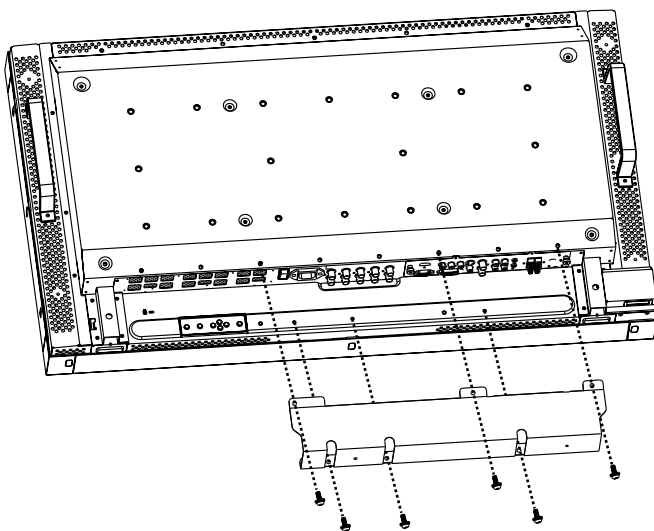

Figure 5
- Use 6 of the M4 x 10 screws (included) to attach the cable cover (Figure 5).